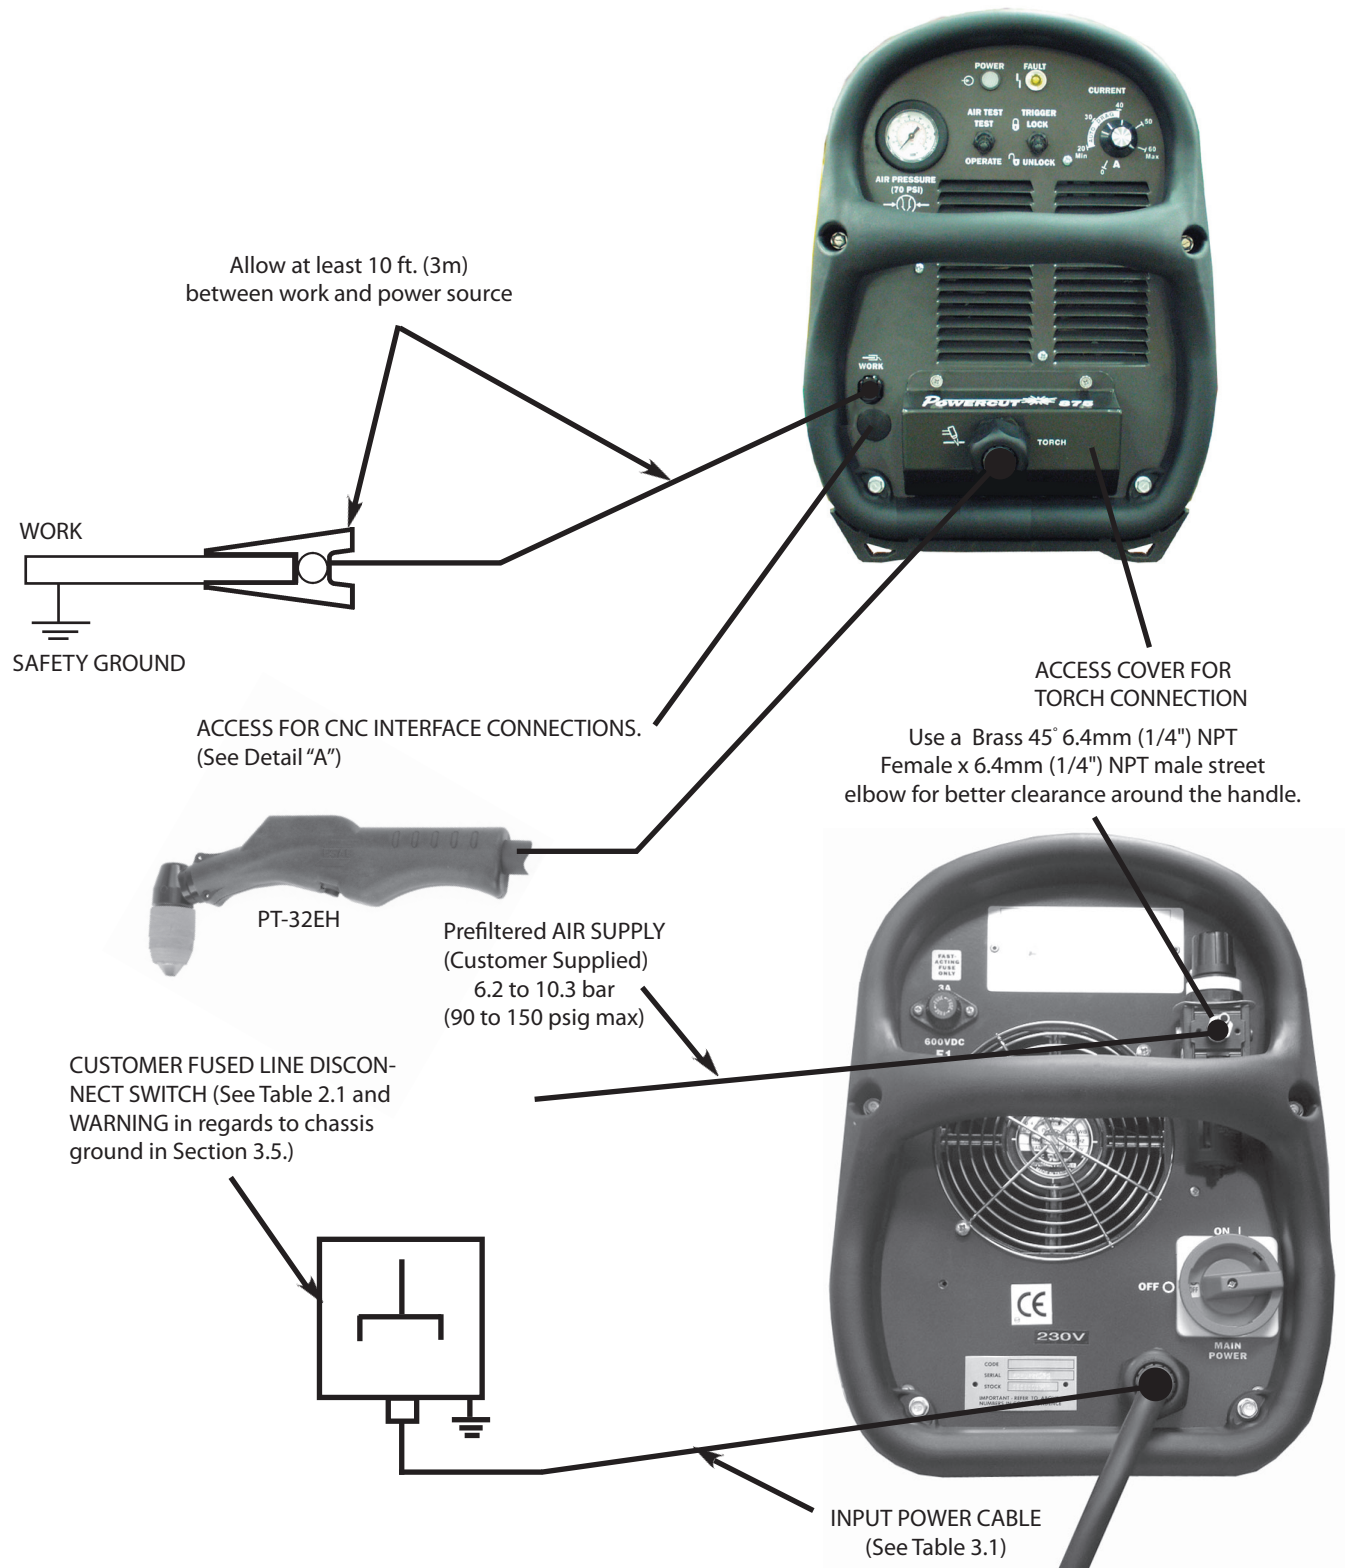

Figure 3-1. Powercut 875 Interconnection Diagram
**3.5 PRIMARY ELECTRICAL INPUT CONNECTIONS (FIGURE3-1)**
A line (wall) disconnect switch with fuses or circuit breakers should be provided at the main power panel (see Fig. 3-1 and Table 3-1 for fuse sizes). The input power cable of the console may be connected directly to the disconnect switch or you may purchase a proper plug and receptacle from a local electrical supplier. If using plug/receptacle combination, see Table 3-1 for recommended input conductors for connecting receptacle to line disconnect switch.
### 3.6 SECONDARY (OUTPUT) CONNECTIONS (REFER TO FIG. 3-1)